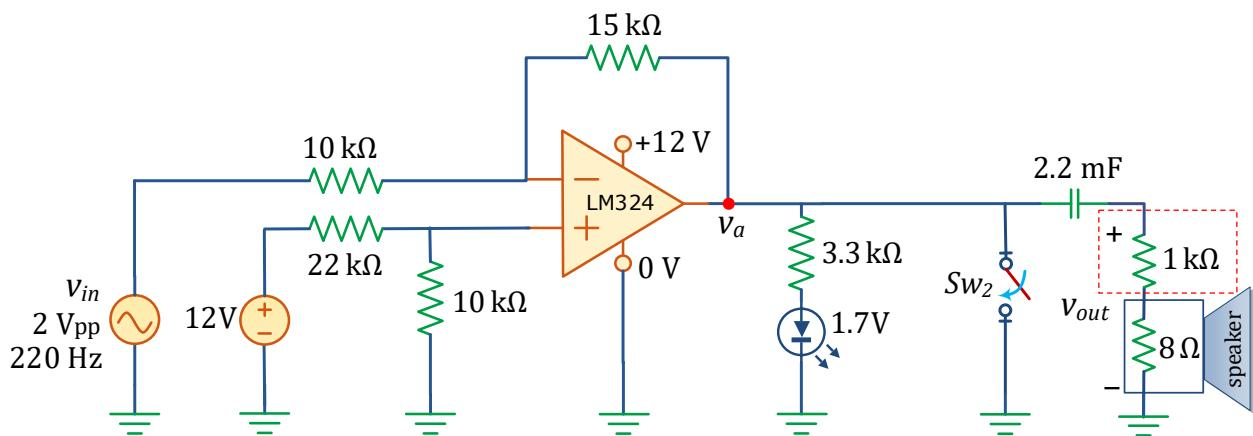

Figure 6.11. Doorbell circuit with additional load used to test speaker functionality (i.e., someone is speaking to the visitor at the door).
- B.8** To fix the loading effect problem, add a **1 kΩ resistor in series with the speaker**, as shown in Figure 6.11. Observe the input and output voltage waveforms (where the output includes both the 1 kΩ and the speaker). Use the space provided to describe both voltage waveforms. Are they sinusoidal now? In addition, explain the effect that this change has had on the speaker sound and why it is happening.